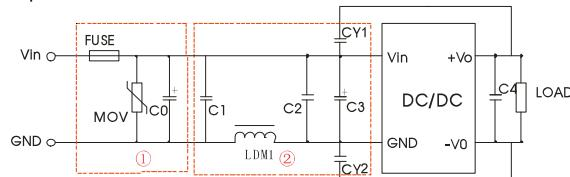

Fig. 7
Dual output	CISPR22/EN55022 CLASS A (Bare component)/ CLASS B (see Fig.7-② for recommended circuit)
Notes: Part ① in the Fig. 7 is used for EMS test and part ② for EMI filtering; selected based on needs.